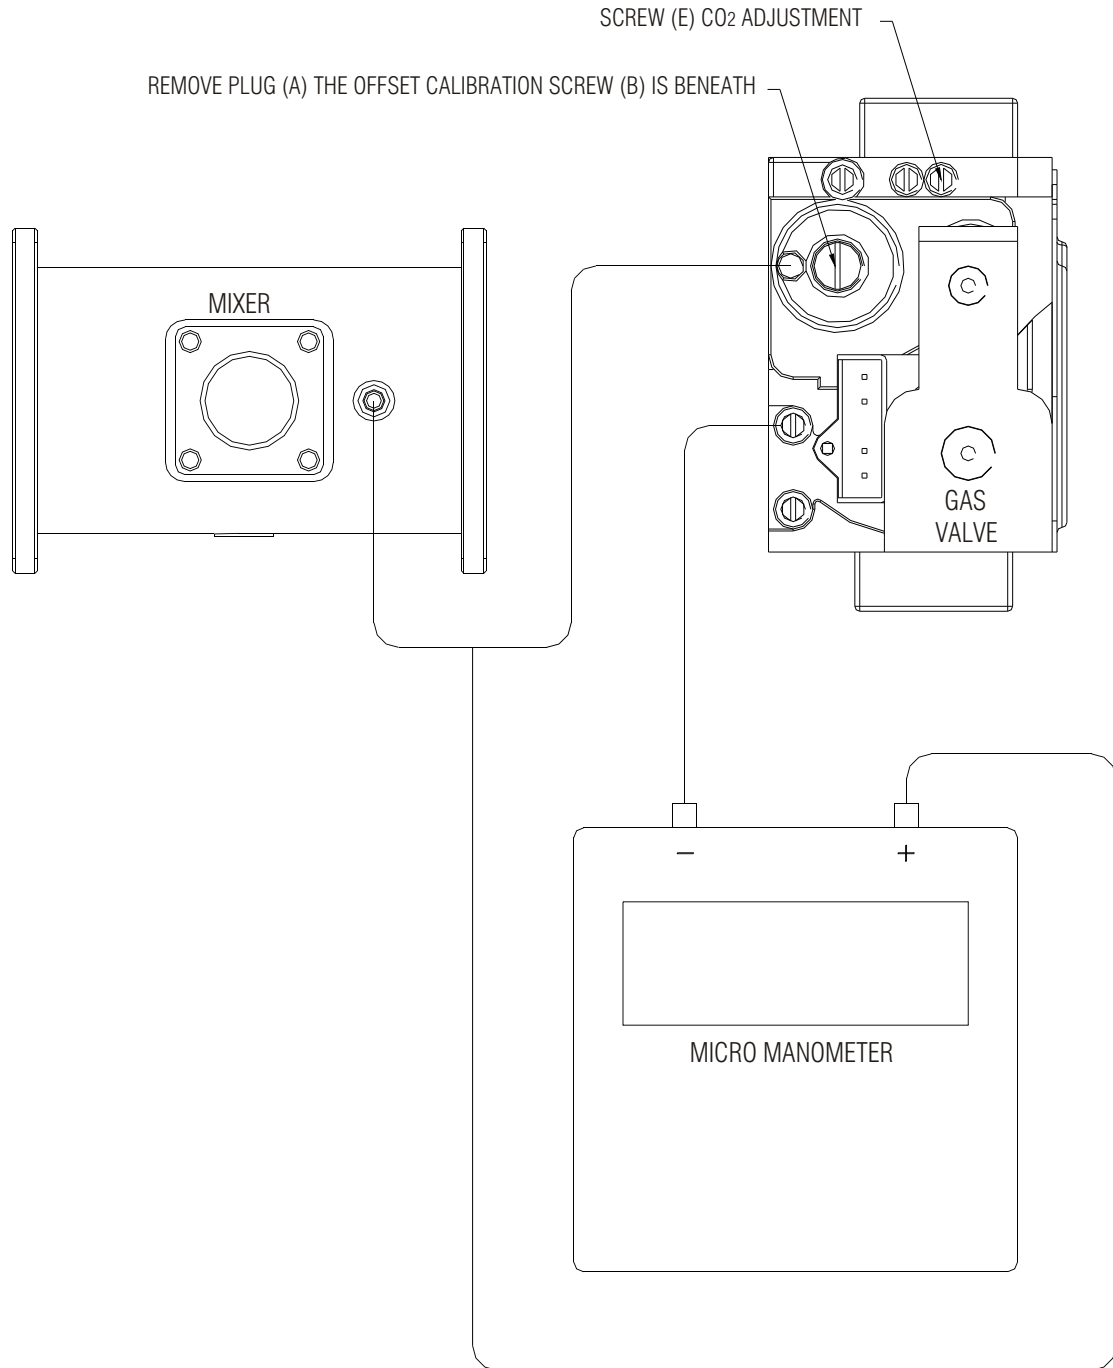

Figure 9C (Gas valve adjustment)
- ii) Slacken test point screws and connect a micro manometer in accordance with Fig. 9C.
- iv) Refer to Fig. 9C, remove plug 'A' to reveal screw 'B'. Using the micro manometer, adjust the offset via screw 'B' to read +20pa (+0.2 mbar)
- vii) Once analyser has stabilised, set CO₂ to read 9.7% for Natural Gas or 10.7% for LPG by adjusting screw 'E' (See Fig. 9C)